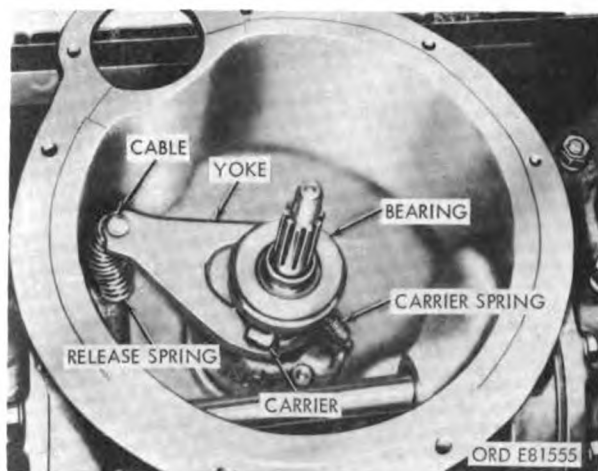
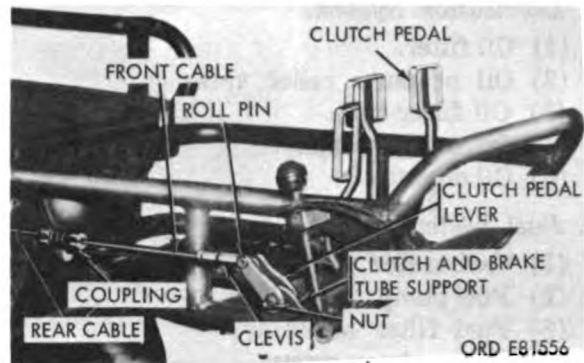

Figure 2-9. Clutch release bearing carrier and yoke installed.
Figure 2-10. Clutch pedal and front control cable.
*a. Description.* The clutch release bearing (fig. 2-9), bearing carrier, and yoke are installed in the rear axle housing. A clutch control rear cable extends from the clutch release yoke to a coupling located just forward of the front edge of the platform. From this coupling the control front cable (fig. 2-10) extends to a lever on the right rear end of the clutch pedal shaft. An adjustment is incorporated in the front cable.